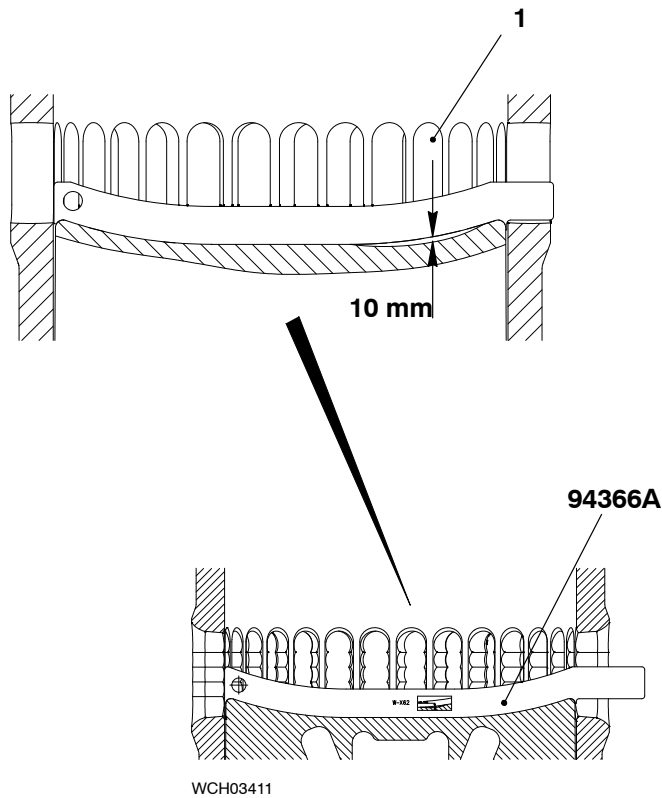

Fig. 2
- 2) Look at the piston head through the scavenge ports (1, Fig. 2) to find burn scars.
- 3) Put the template (94366A) through the related scavenge port (1).